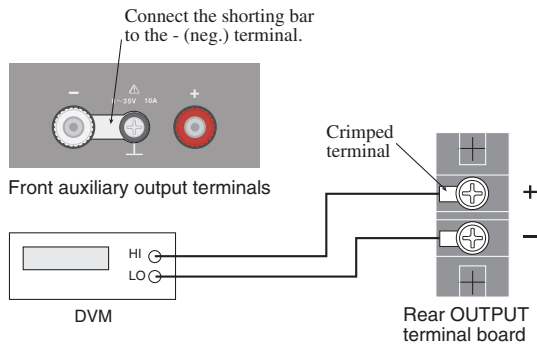

Fig.6-1 Connection for voltage system adjustment
4. Connect a DVM as shown in Fig.6-1.